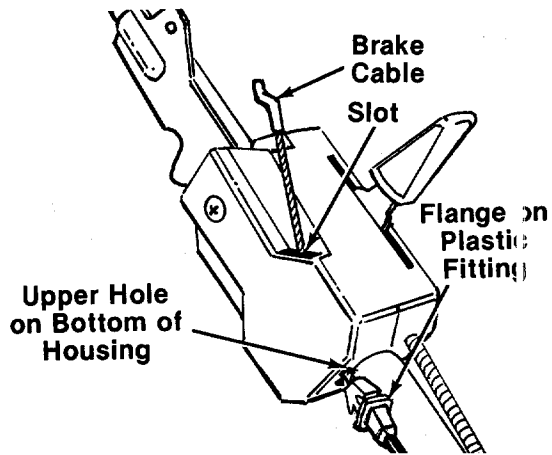

FIGURE 7.
11. The brake cable is attached to the engine. Route the brake cable under the lower handle. Place the end of the brake cable into the upper hole on the bottom of the control housing, and through the slot in the side of the housing as shown in figure 7. The angle of the flange on the plastic fitting must be positioned downward as shown. Be careful not to bend or kink the cable.